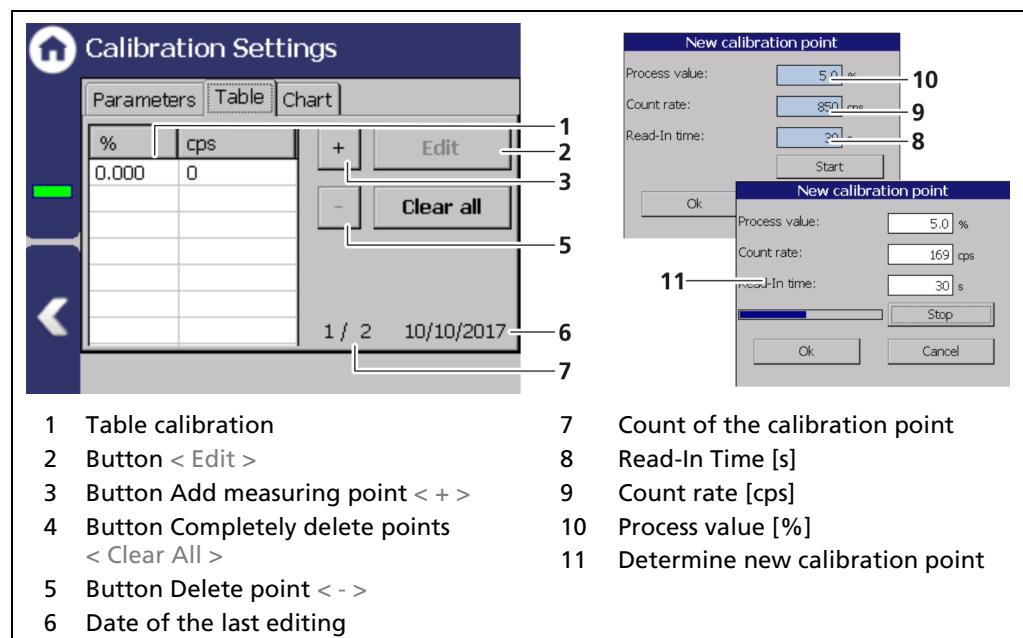

Fig. 80 Calibration Parameters (Table 2 Point Exp. calibration type)
1. Click on the button < + > (Fig. 80, item 3).
- ▶ The window "New calibration point" (Fig. 80, item 11) opens.
2. Click on the input field "Process value" (Fig. 80, item 9) to open the input field.
4. Click on the input field "Read-In Time" (Fig. 80, item 10) to open the input field.
- ▶ The Window "New calibration Point" (Fig. 80, item 11) opens and the count rate is determined.
2. Click on the input field "Read-In Time" (Fig. 80, item 8) to open the input field.
4. Click on the input field "Process value" (Fig. 80, item 6) to open the input field. Specify the current, actual level in percent and confirm with the Enter key.